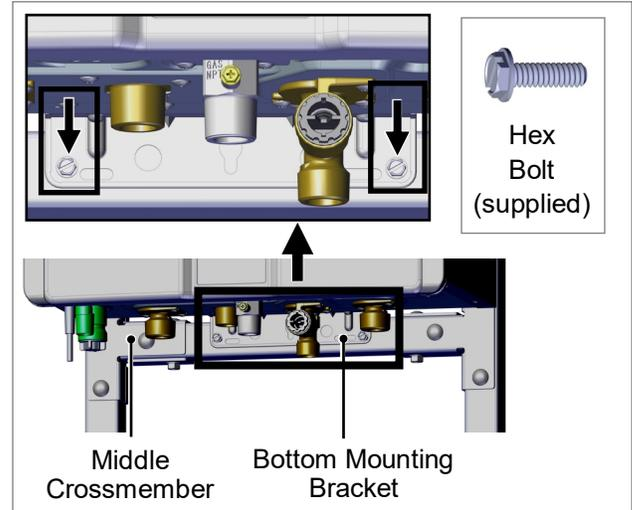

Fig 11. Secure Bottom Mounting Bracket.
8. For SENSEI™ Tankless Water Heaters or I-Series Boilers, secure the bottom mounting basket to the Middle Crossmember using two (2) Hex Bolts (supplied) (Fig 11).